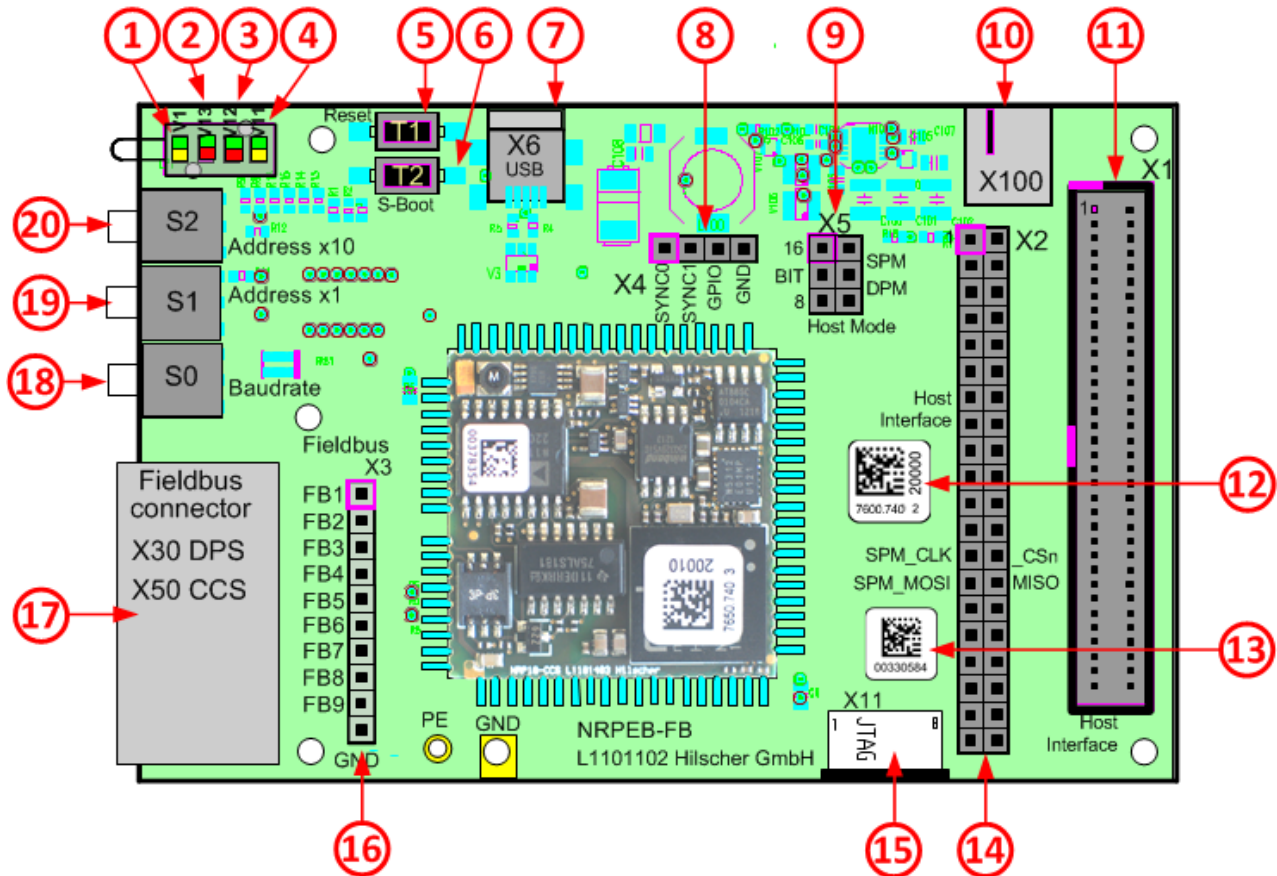

Figure 20: Evaluation Board NRPEB 10-CCS and NRPEB 10-DPS
Position (17) in Figure 20 on page 44.
S2, position (20) in Figure 20 on page 44.	S1, position (19) in Figure 20 on page 44.